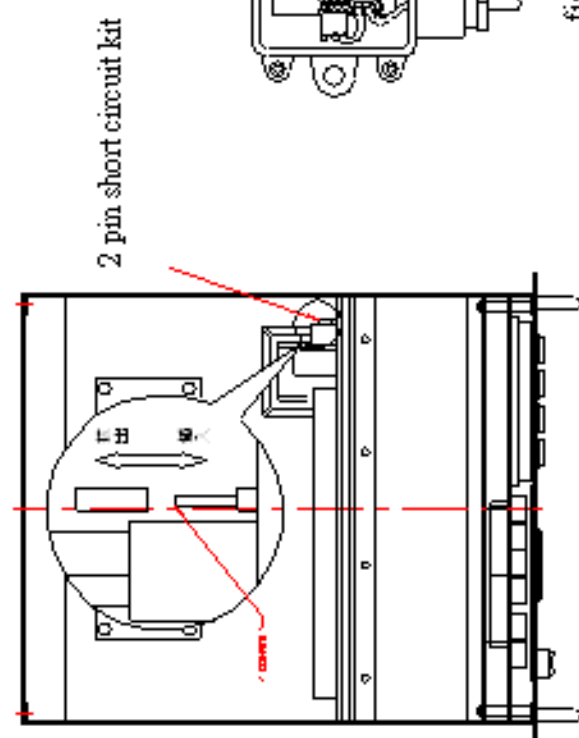

figure-2
Step 3: Pull out the panel board, put on the 2 PIN short circuit kit on the CN-103 socket. (Figure-2)